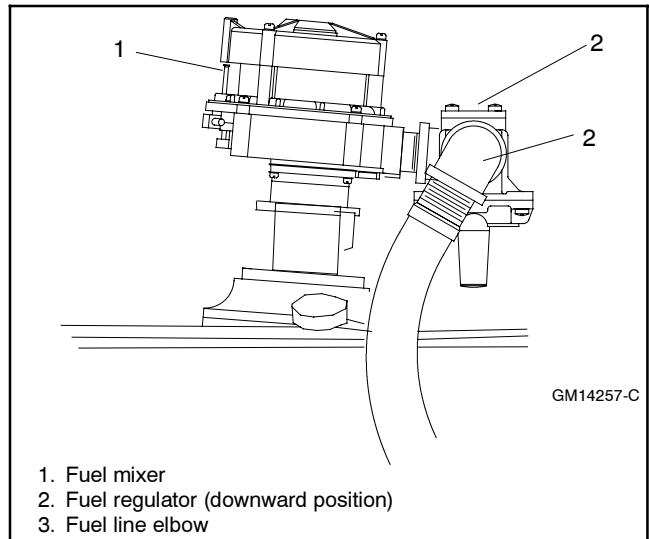

Figure 9-34 Fuel Mixer, Typical
- d. Place the gas mixer on the throttle with the existing gasket and install the four screws. See Figure 9-34.
- a. Rotate the fuel regulator to a downward pointing position as shown in Figure 9-34.